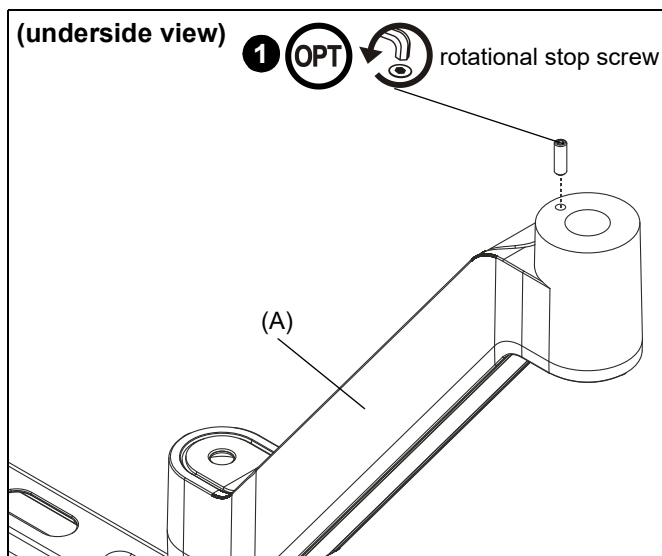

Figure 6
**IMPORTANT ! :** If rotational stop is not desired, rotational stop screw must be removed prior to installing arm to base assembly. (See Figure 6)
1. (Optional) Use hex key to remove rotational stop screw if rotational stop feature is not desired. (See Figure 6)
**NOTE:** This section only applies if the pivot stop screw is removed. (See Figure 6)